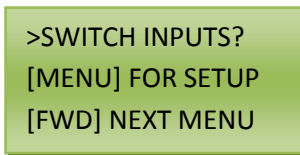

Figure 8.1
1. Press the MENU on the keypad and the screen will say >SWITCH INPUTS? See figure 8.1 for visual description. If still in the Setup Scenes menu, just press BACK on the keypad once and FWD once, to get to the >SWITCH INPUTS?